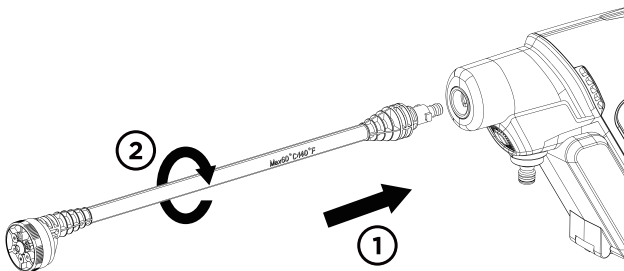

Fig. 1
ASSEMBLING THE SPRAY WAND WITH MULTI-SPRAY NOZZLE(Fig. 1)
1. Insert the end of the spray wand with multi-spray nozzle into the power cleaner and rotate clockwise to secure. (Fig. 1)